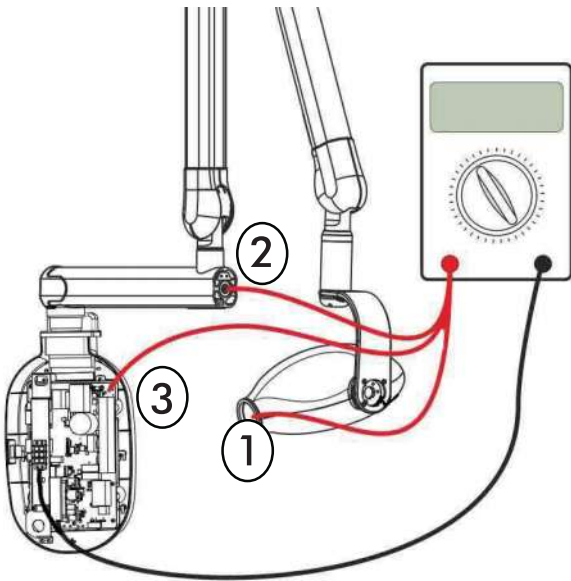

Figure 36: Check the continuity of ground connection
Using a Multimeter, check the continuity between the following points as shown in Figure 36 :-
- 3) Between Ground point of power cord and Base Unit Wall mounting plate as shown in Figure 36 .